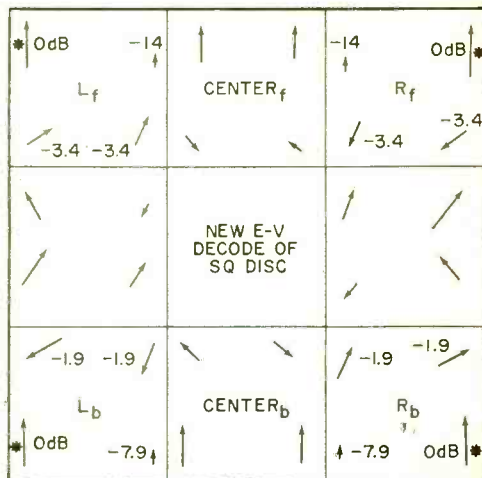
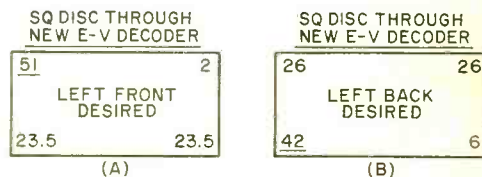

Fig. 13. CBS disc through new E-V decoder.
Fig. 14. Power relations with new E-V decoder.
**Universal Decoder.** Although by far the greatest number of 4-channel matrixed discs released to date are CBS SQ types, a good number of discs using other matrix systems are also available. Some manufacturers have elected to build decoders with several switch positions to handle the different decoding systems. This, of course, is a valid though somewhat expensive solution to the compatibility question. Electro-Voice, on the other hand, used a computer to design a decoding scheme that comes fairly close to being fully compatible with all of the popular encoding schemes. They have retained the original E-V amplitude coefficients in the encode and decode formulas but have added specific amounts of phase shift to some of the signals. The phase shifts used are neither 90° nor 180°, but carefully calculated angles that fall somewhere in between. To judge the effectiveness of this new circuit, Fig. 13 shows what happens when a CBS SQ disc is played through the E-V decoding system, and Fig. 14 shows